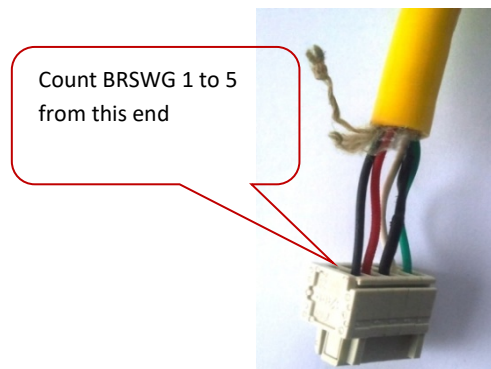

Figure 3-5: Connector wiring
- 5 Connect Black (B) in the first slot, Red (R) in the second slot, Shield (S) in the third slot, White (W) in fourth slot and Green (G) in fifth slot. See Figure 3-5.